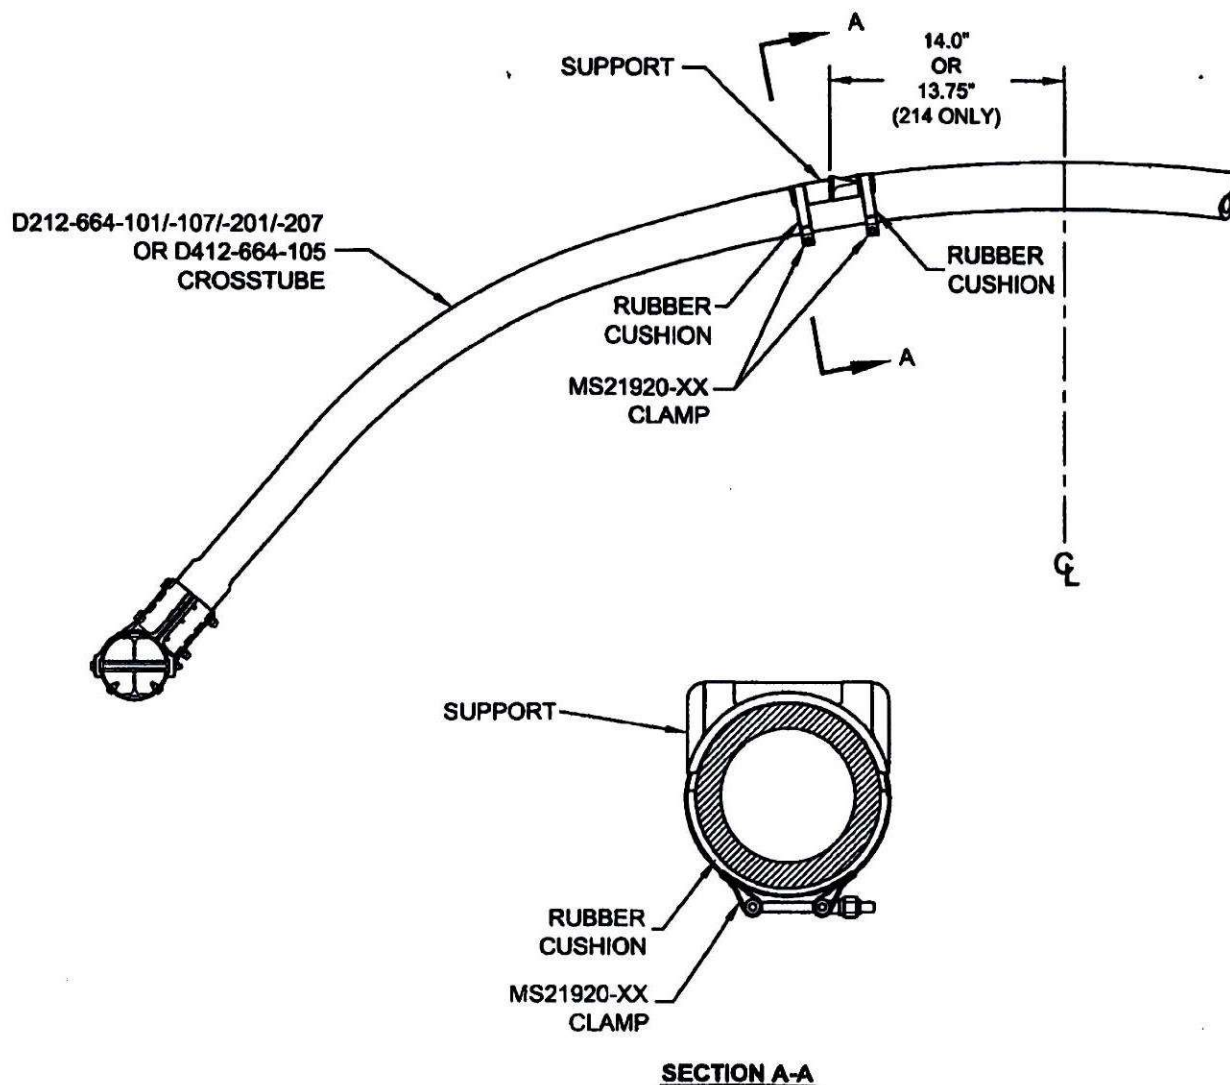

FIGURE 1: SUPPORT INSTALLATION
For the crosstubes listed above, section 32.4 of ICA-D212-664 is amended as follows. Use Figure 1 of this service instruction and Figures 32-2 to 32-9 of ICA-D212-664 for further reference. For crosstubes of an earlier change number, it is recommended that if the supports are removed, the supports should be reinstalled using the procedure listed below.
32.4.1 Locate the area on the crosstube for installation of support (see Figure 1 of this service instruction). For D212-664-101/-107/-201/-207 and D412-664-105 crosstubes, the outward face of the support tabs should be 14.0" (355mm) from the crosstube center for 204/205/210/412/UH-1 aircraft. For installation on 214B/B-1 aircraft, the outward face of the support tabs should be 13.75" (349mm). Ensure paint finish of crosstube is intact; touch up as required per Chapter 5 (5.3.9) of ICA-D212-664.
32.4.5 Apply a 0.04" to 0.07" thick layer of Proseal 890 Class B or AMS-S-8802 Class B sealant underneath applicable support and install support as shown in Figure 1 of this service instruction.
32.4.6 Install the clamps opposite to crosstube support as shown in section A-A of Figure 1. Install rubber cushions underneath each clamp around the bottom circumference of the crosstube up to the crosstube centerline. Torque clamps 80-100 in·lb (9.0-11.3 Nm). It is acceptable to use smaller or larger sized MS21920-XX clamps than those listed in ICA-D212-664, ensure that after torquing the clamps per this instruction, the nuts are in safety but not bottomed out